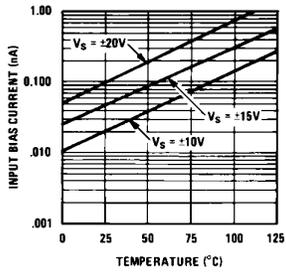
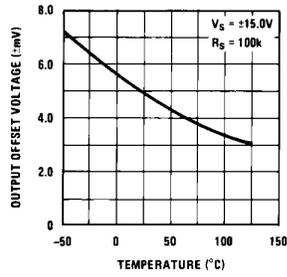
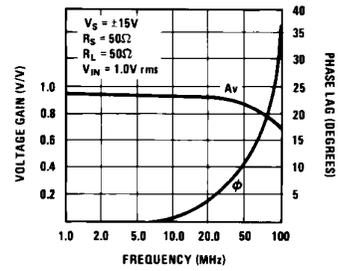

FIGURE 3. Input Bias Current vs Temperature
FIGURE 4. Output Offset Voltage vs Temperature
FIGURE 8. Frequency Response
*Figure 3* is a plot of input bias current vs temperature and shows the typical FET input characteristics. Other typical performance curves are illustrated in *Figures 4* through *10*. Of particular interest is *Figure 8*, which demonstrates the performance of the LH0033 in video applications to over 100 MHz.